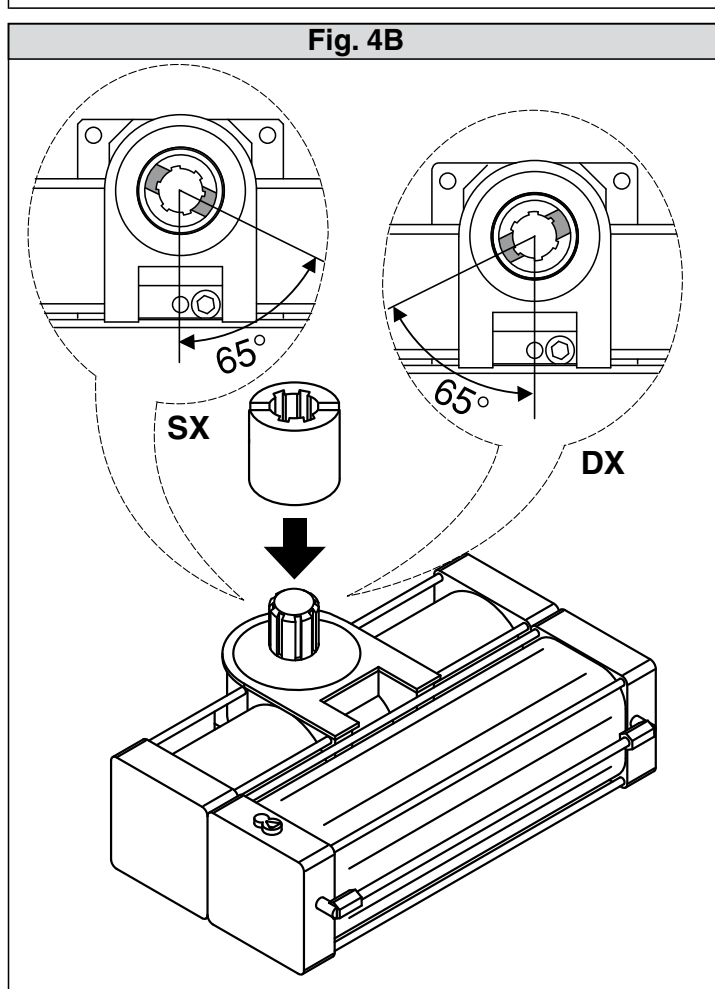

Fig. 4C
- Rotate the splined joint tooth towards the opening direction, until it is brought parallel with the operator (Fig.4C).
- Start to screw dowel M12x20 into the respective threaded hole found in the grooved joint (Fig.4C).